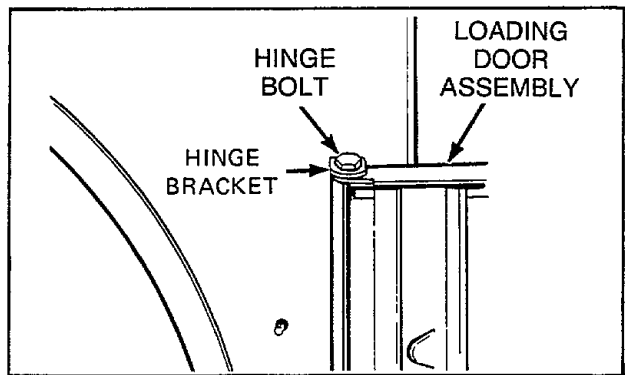

Figure 15
11. **LOADING DOOR ASSEMBLY (Refer to Figure 15)**